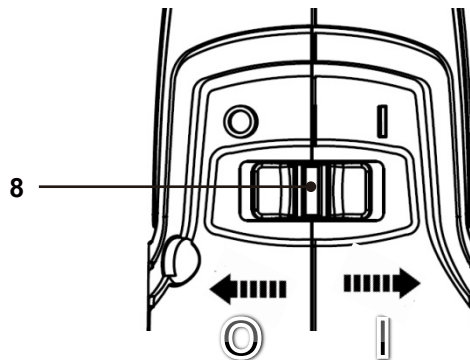

Fig.13
- > To start the tool, slide the On/Off Switch (8) toward the "I(ON)" position (Fig. 13).
- > To stop the tool, slide the On/Off Switch (8) toward the "O(OFF)" position (Fig. 13).